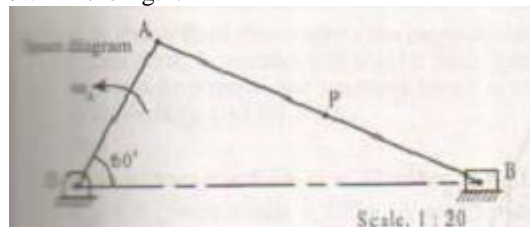

Fig. 2.2
2. The crank of a slider crank mechanism is 480mm long and rotates at 20 rad/sec in the counter clockwise direction. It has a connecting rod of 1600mm long. Determine the following when the crank is 60 degree from the inner dead centre, angular velocity of the connecting rod, the position and the velocity of a point P on the connecting rod having least absolute velocity shown in the fig.2.2